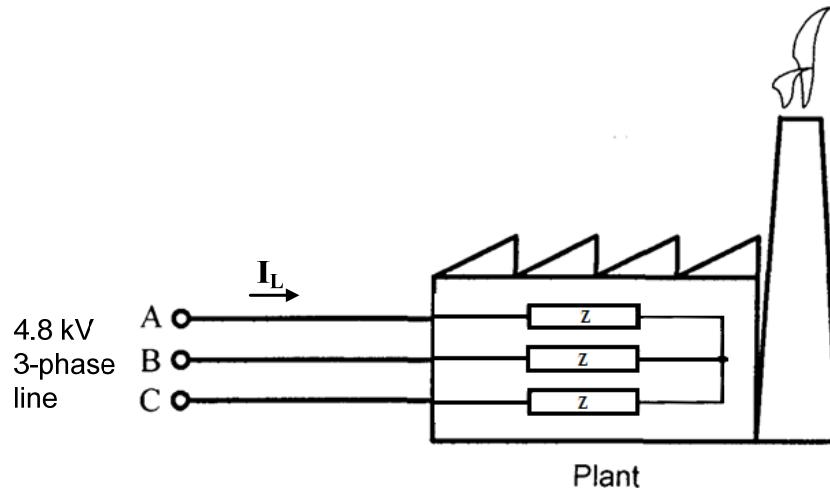

Figure 2.1
2. (a) A manufacturing plant is supplied by a 3-phase 4.8 kV line voltage. The plant has a power factor of 86 percent lagging and it draws 1200 kVA of apparent power. Assume that the plant is wye connected with three balanced impedances, Z as shown in Figure 2.1. Calculate the following: